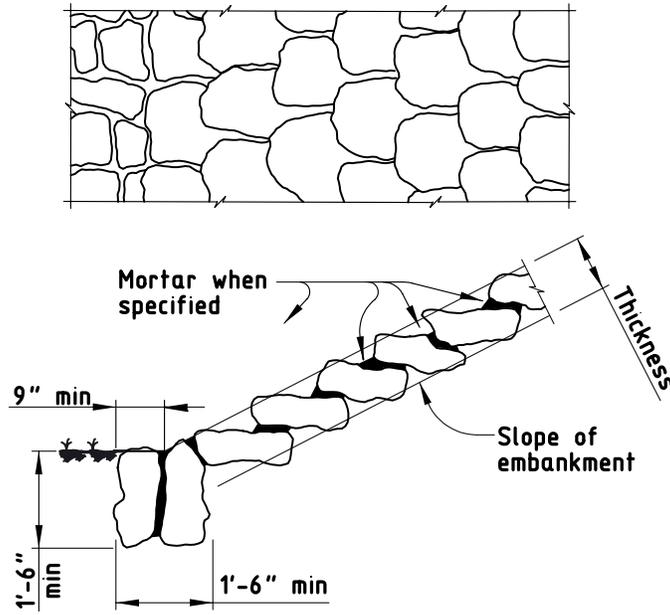

Figure 2
- a. Dry Placement.** Construct riprap as shown in Figure 2. Set the flat surface on a prepared horizontal earth bed, and overlap the underlying course to secure a lapped surface. Place the large stones first, roughly arranged in close contact. Fill the spaces between the large stones with suitably sized stones placed to leave the surface evenly stepped and conforming to the contour required. Place stone to drain water down the face of the slope.
- c. **Mortaring.** Construct riprap as shown in Figure 2. Lap courses as described for dry placement. Before placing mortar, wet the stones thoroughly. As the larger stones are placed, bed them in fresh mortar and shove adjacent stones into contact with one another. After completing the work, spread all excess mortar forced out during placement of the stones uniformly over them to fill all voids completely. Point up all joints roughly either with flush joints or with shallow, smooth-raked joints as directed.